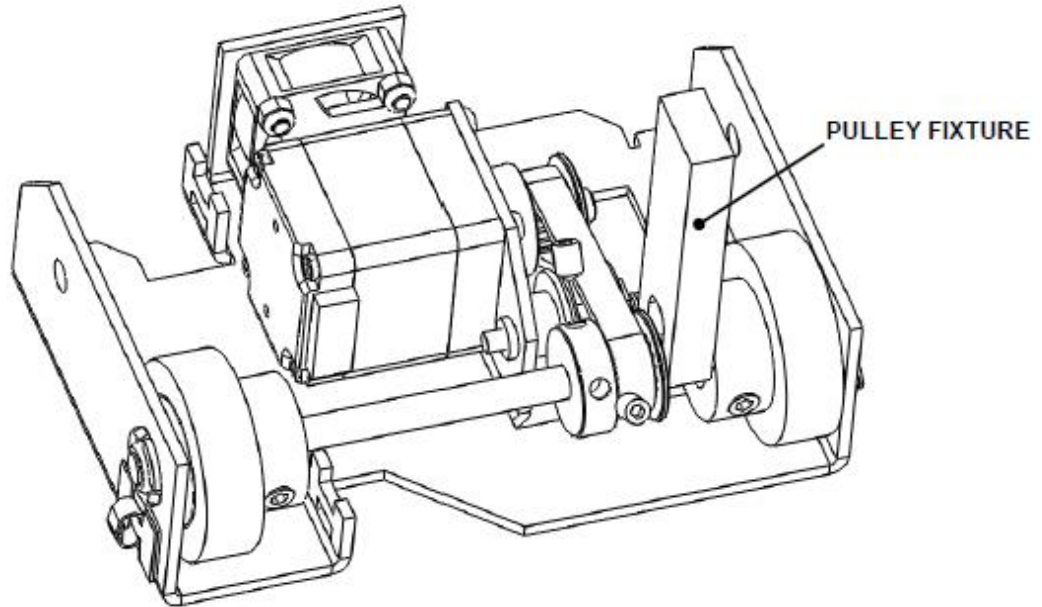

Figure J-14: Using the Pulley Fixture
4. Position the drive pulley on the shaft using the Pulley Fixture so that it lines up with the pulley attached to the motor (Figure J-14). Fix the pulley in place using two M4x6 Set Screws and Loctite 222.